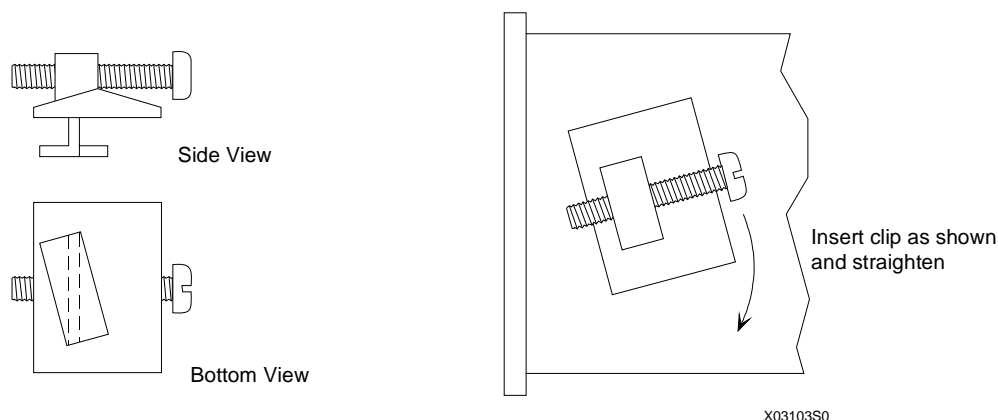

FIGURE 2-4 Case Mounting Clip
1. Locate the supplied Mounting Clip Kit. It contains two mounting clips and two 8-32 x 1" fillister head screws. Thread the mounting screws into the mounting clips. See Figure 2-4.